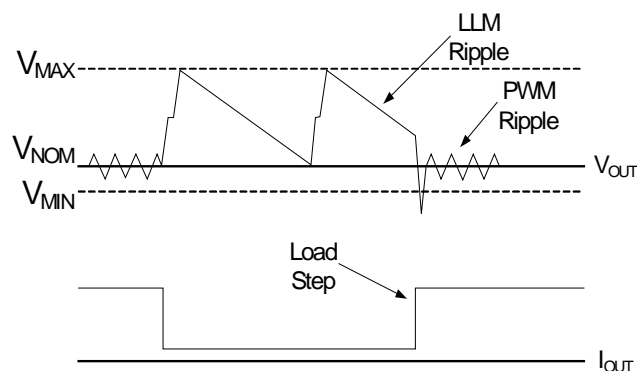
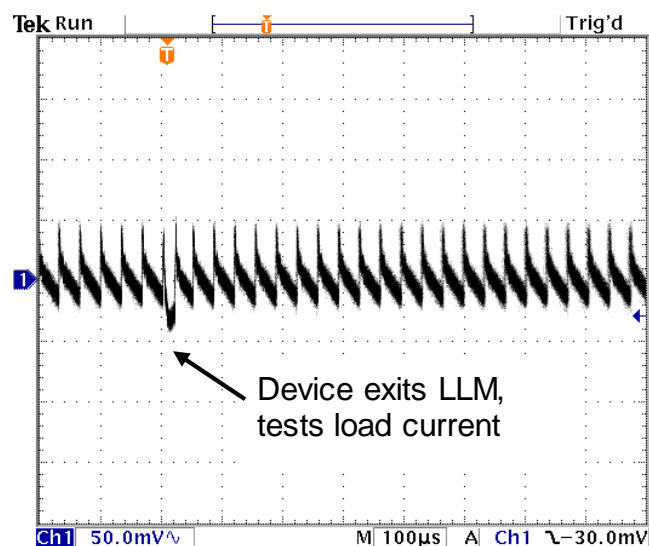

Figure 6: V_{OUT} Behavior in LLM Operation
Figure 7: V_{OUT} Droop during Periodic LLM Exit
The EP53A7xQI uses a proprietary light load mode to provide high efficiency in the low load operating condition. When the LLM pin is high, the device is in automatic LLM/PWM mode. When the LLM pin is low, the device is in PWM mode. In automatic LLM/PWM mode, when a light load condition is detected, the device will (1) step V_{OUT} up by approximately 1.5% above the nominal operating output voltage setting, V_{NOM} , and then (2) shut down unnecessary circuitry, and (3) monitor V_{OUT} . When V_{OUT} falls below V_{NOM} , the device will repeat (1), (2), and (3). The voltage step up, or pre-positioning, improves transient droop when a load transient causes a transition from LLM mode to PWM mode. If a load transient occurs, causing V_{OUT} to fall below the threshold V_{MIN} , the device will exit LLM operation and begin normal PWM operation. Figure 6 demonstrates V_{OUT} behavior during transition into and out of LLM operation.
Many multi-mode DCDC converters suffer from a condition that occurs when the load current increases only slowly so that there is no load transient driving V_{OUT} below the V_{MIN} threshold (shown in Figure 6). In this condition, the device would never exit LLM operation. This could adversely affect efficiency and cause unwanted ripple. To prevent this from occurring, the EP53A7xQI periodically exits LLM mode into PWM mode and measures the load current. If the load current is above the LLM threshold current, the device will remain in PWM mode. If the load current is below the LLM threshold, the device will re-enter LLM operation. There will be a small droop in V_{OUT} at the point where the device exits and re-enters LLM, as shown in Figure 7.